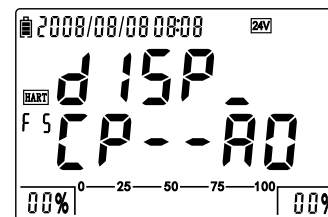

Figure 4-5-5-1: F5 entrance
- As figure 4-5-5-2, screen shows CP and AO value by pressing ; the digits of CP and AO are determined by pressure and current respectively. Under this interface, press to switch to the interface as figure 4-5-5-1; Press to function 6.